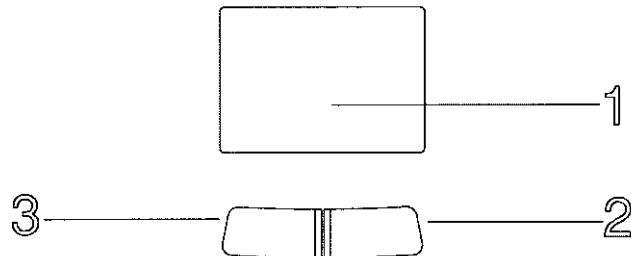

Figure 1-4 Track Pad Pointing Device
- Track pad (Item 1, Figure 1-4)
- Right input button (Item 2, Figure 1-4)
- Left input button (Item 3, Figure 1-4)